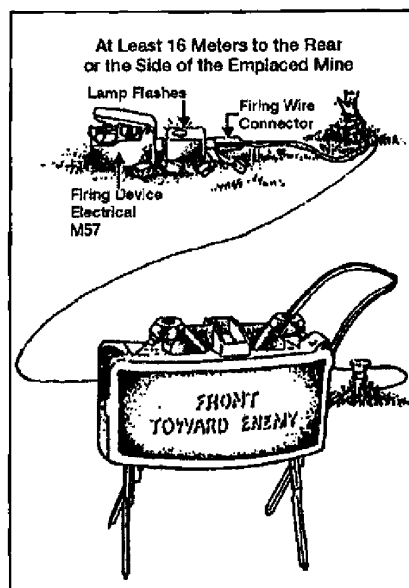

Figure 071-325-4425-12. Retesting the circuit
8. Repeat step 2 to test the circuit after the firing wire is laid out and the cap is placed inside the mine to see if there are any breaks in the wire (figure 071-325-4425-12).